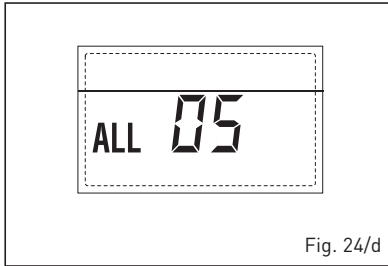

Fig. 24/d
- FLAME BLOCK ALARM 06 (fig. 24/e)